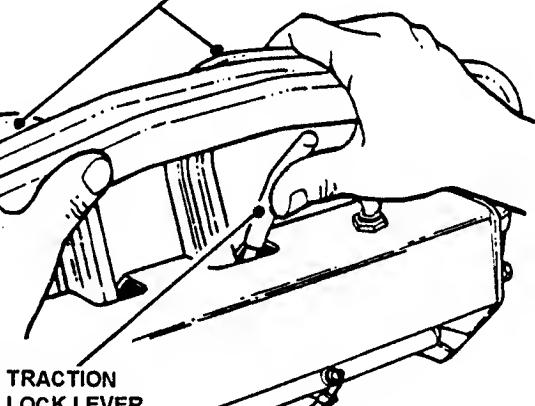

FIGURE 14
- 13.a. **LOOP HANDLE: TO STOP MOWER**, simultaneously squeeze both Traction Levers firmly against the handlebar while pushing the Traction Lock Lever forward, until latched. See Figure 14.
3. Move Transmission Shift Lever to REVERSE (R) position.
- 7a. LOOP HANDLE - TO STOP MOWER, simultaneously squeeze both Traction levers firmly against the handle while pushing the Traction Lock Lever full forward, until latched. See Figure 14.